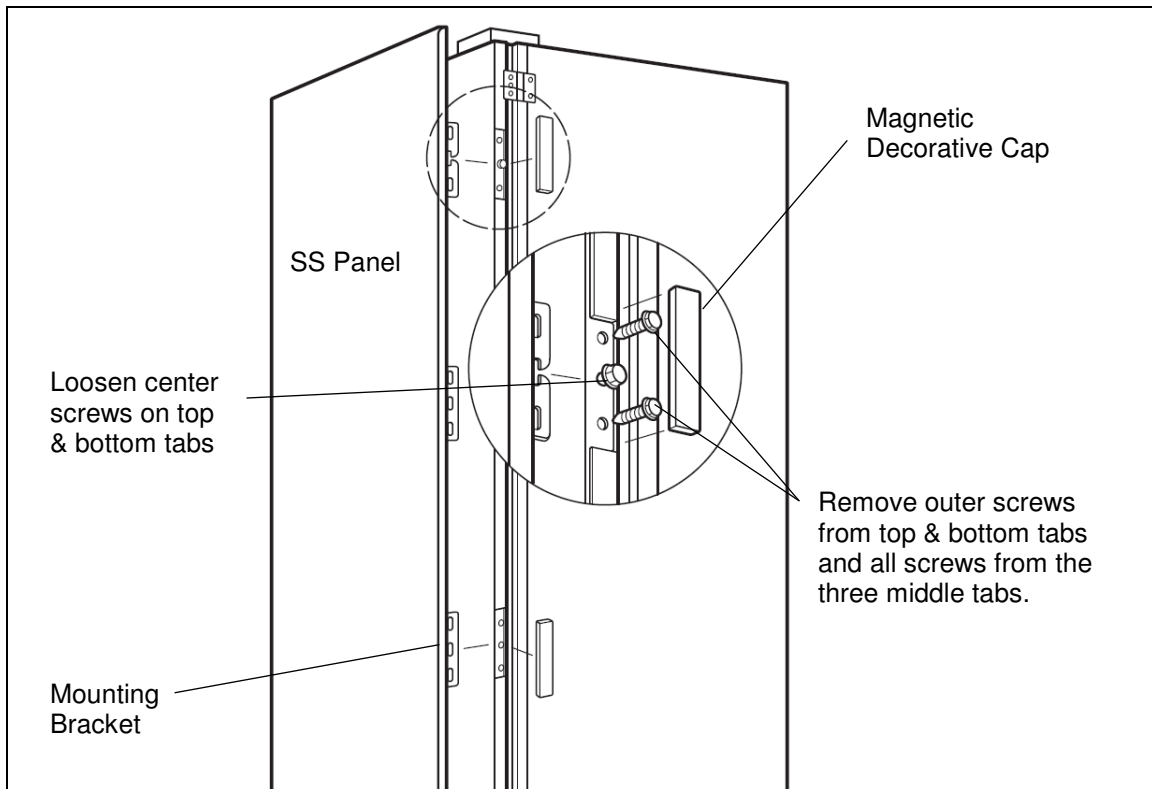

Figure 1
1. Before attaching the stainless steel door panel to the door, remove the four outer screws from the top and bottom mounting positions and loosen the center screws. Remove all nine screws from the middle mounting positions. (See figure 1).
5. Once door panel is in place and adjusted correctly, attach thirteen #10 x 1/2" screws (removed earlier) to hinge side mounting bracket. Then, install magnetic decorative caps (See Figure 1).